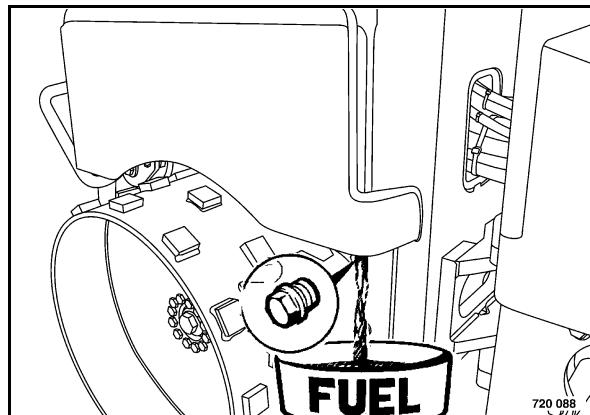

Fig. 112
- Place the suitable container under the fuel tank drain plug (Fig. 112).